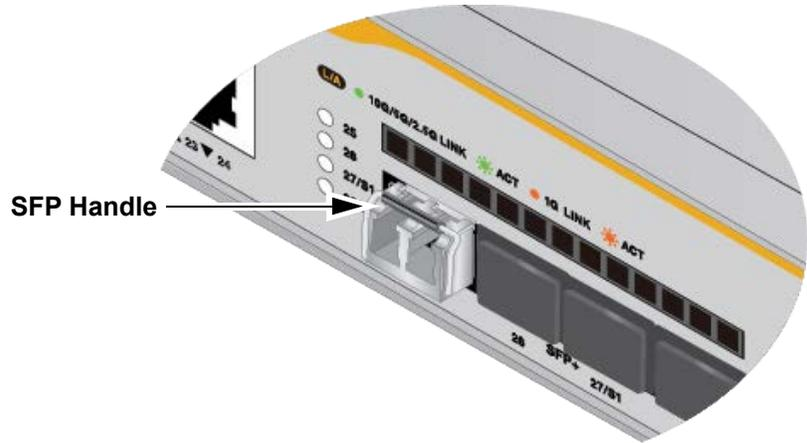

Figure 69. Positioning the SFP or SFP+ Handle in the Upright Position
6. Verify the position of the handle on the transceiver. The transceiver handle should be in the upright position, as shown in Figure 69 on page 135.